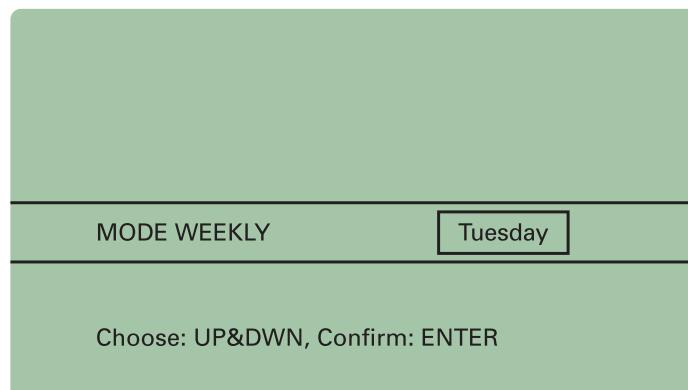

Figure 123. Display: Starting day for the weekly Cold D is selected.
- Use the arrow keys (Fig. 114.5 and 114.6) to scroll through the days from "Monday" to "Sunday" (Fig. 123).